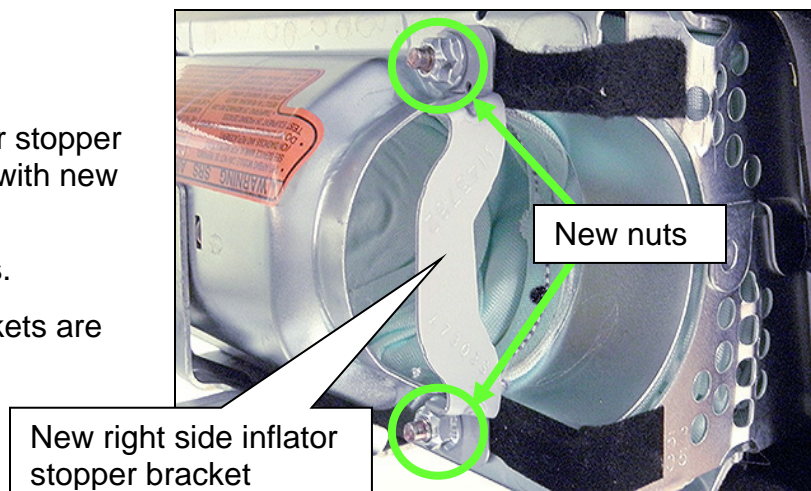

Figure S16
17. Install the new right side inflator stopper bracket (shown in Figure S16) with new nuts finger tight.